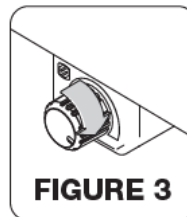

FIGURE 3
2. If using the remote volume control, ensure that it is connected to the main unit with its knob turned all UP (Figure 3).